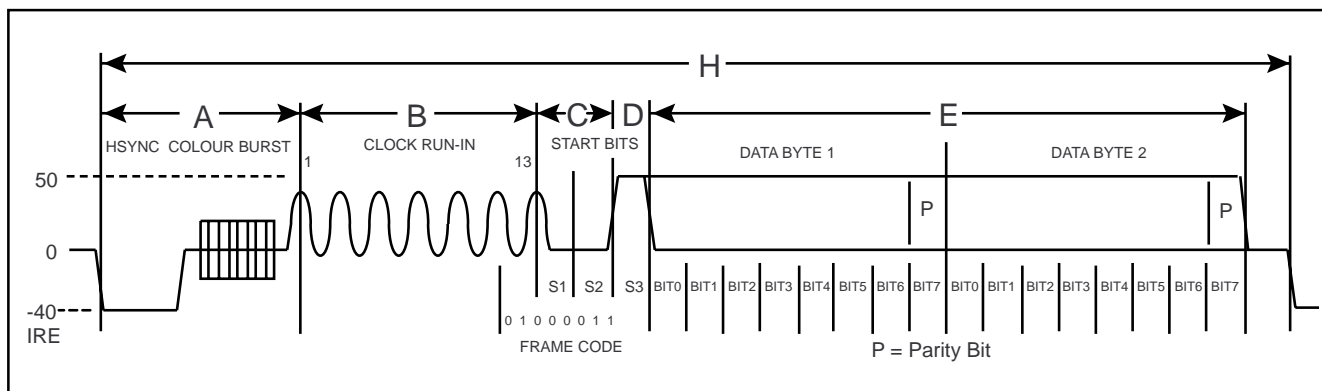

Fig.7 Closed Capation format
Two bytes of data are coded on the line 21 of each field, see figure 7. In the NTSC Closed Caption service, the default state is to code on line 21 of field one only. An additional service can also be provided using line 21 (284) of the second field. The data is coded as NRZ with odd parity, after a clock run-in and framing code. The clock run-in frequency = 0.5034965MHz which is related to the nominal line period, $D = H / 32$.